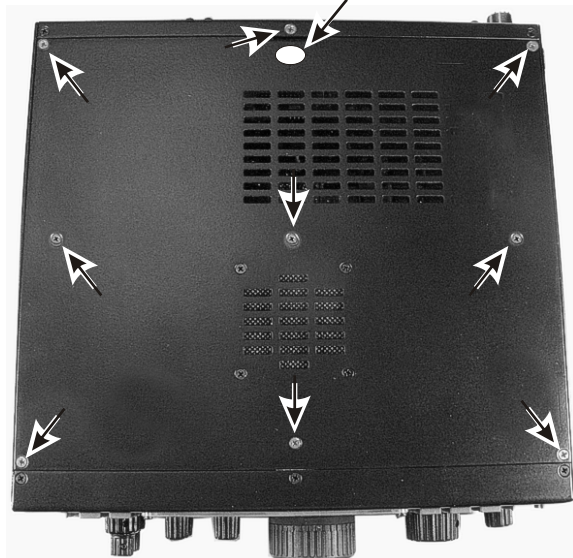

Figure 78. How to Remove the Top Cover.
*When removing the top cover in the future, the normal procedure is to remove the nine screws on top, leaving the stiffening bar on the chassis (see Figure 78). If the KPA3 100-watt amplifier is installed, this is the only way the top cover can be removed because the rear shield installed with the KPA3 attaches to the stiffening bar.*
- ① REMOVE 9 SCREWS HOLDING TOP COVER.      ② TO OPEN COVER, PRESS HERE TO TILT FRONT EDGE UP OR PLACE UNIT ON ITS SIDE FEET, THEN TIP FARTHER SO THE TOP COVER SWINGS OPEN.